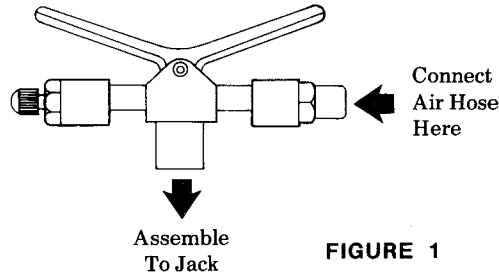

FIGURE 1
2) Will not lower.	Air valve might be incorrectly assembled to jack — Assemble as shown in Figure 1. The safety bar might be engaged. Admit air until the jack raises slightly, then disengage the bar.